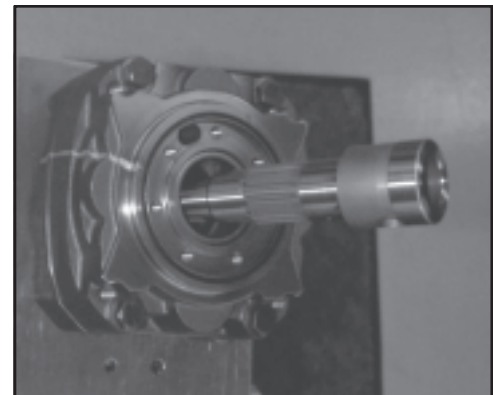

Figure D4
5. Tap up on end of shaft and remove shaft from brake assembly. Inspect the shaft for abnormal wear or damage. Replace shaft if worn or damaged. SEE FIGURE D4